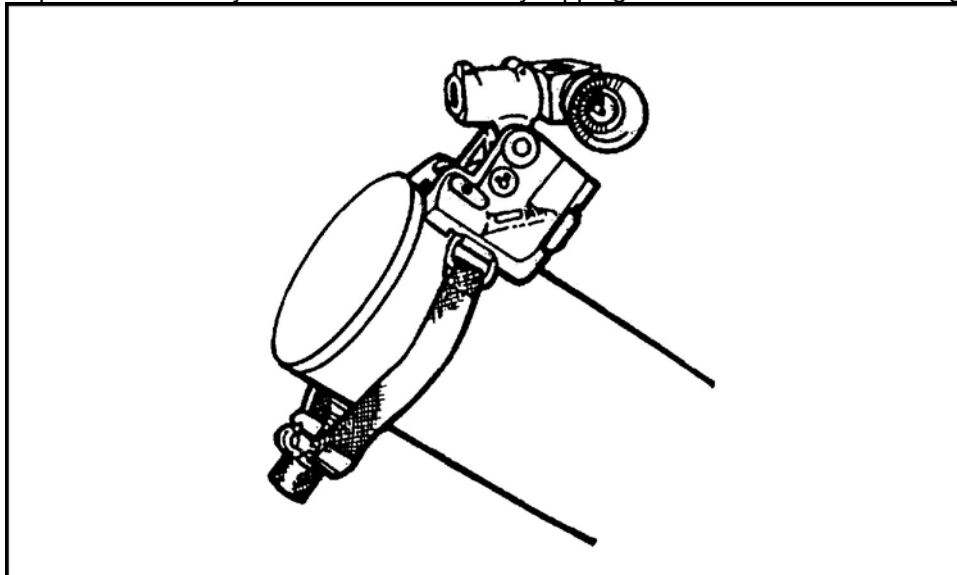

Figure 1. M45 sight flush with rim of muzzle.
- c. Place the M45 boresight on the top of the barrel, flush with the rim at the muzzle end of the barrel (Figure 1). Center the cross-level bubble by rotating the boresight and then tighten the clamp screw. Fine adjustment can be made by tapping on either side of the boresight.